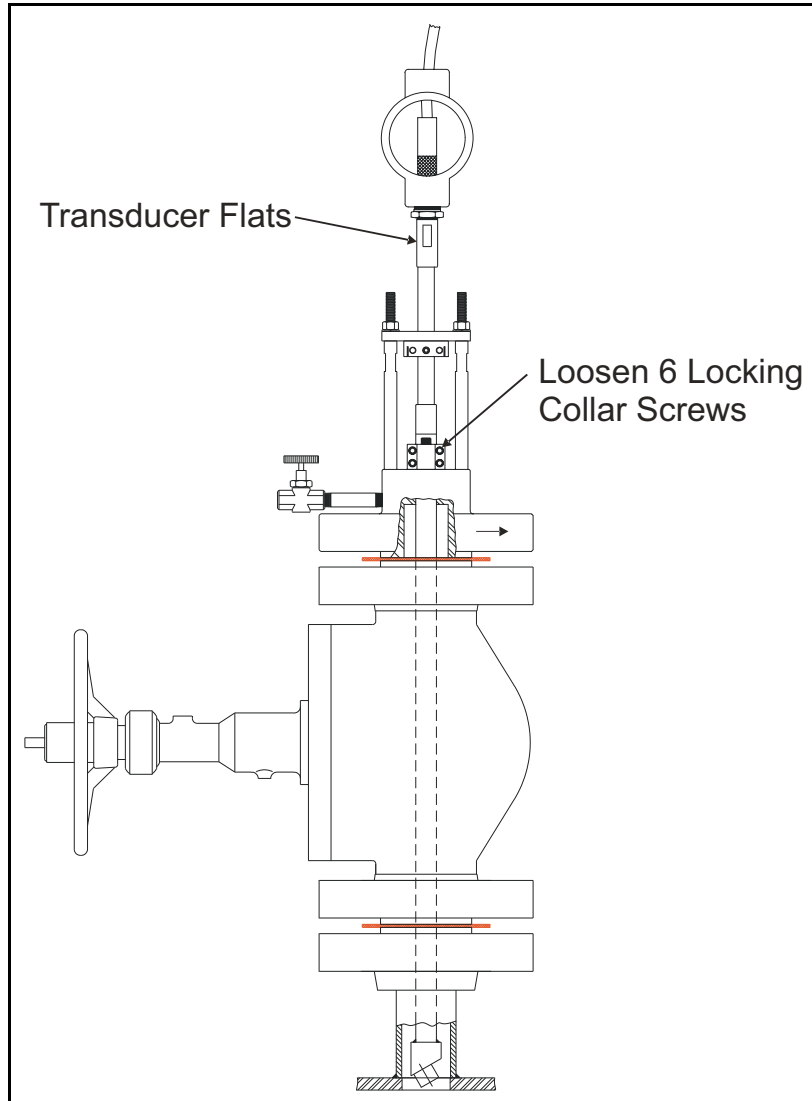

Figure 38: Freeing the Locking Collar
2. At each transducer port, evenly loosen the two 1/4-20 screws and the four 10-32 screws just enough to free the locking collar from the transducer shaft (see *Figure 38* below). If the locking collar will not come loose, remove the 1/4-20 screws completely.
3. Position a wrench on the transducer flats (see *Figure 38 on page 29*) and rotate the transducer about one degree clockwise or counterclockwise. Observe the signal strength displayed on the flowmeter console for at least two or three readings or observe the receive signal on the oscilloscope.